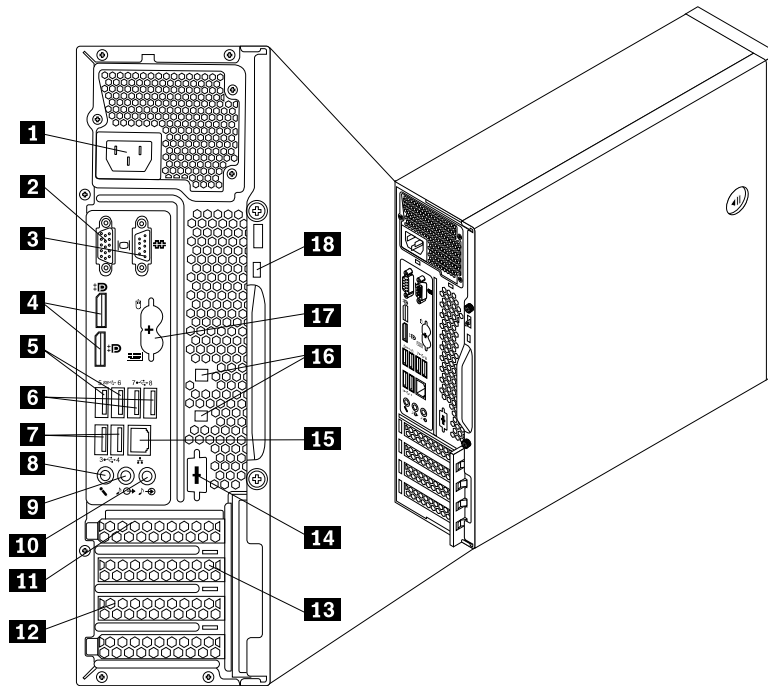

Figure 3. ThinkCentre M83 rear connector locations
- Figure 3 “ThinkCentre M83 rear connector locations” on page 12 shows the locations of the connectors on the rear of the ThinkCentre M83 computer. Some connectors on the rear of your computer are color-coded to help you determine where to connect the cables on your computer.